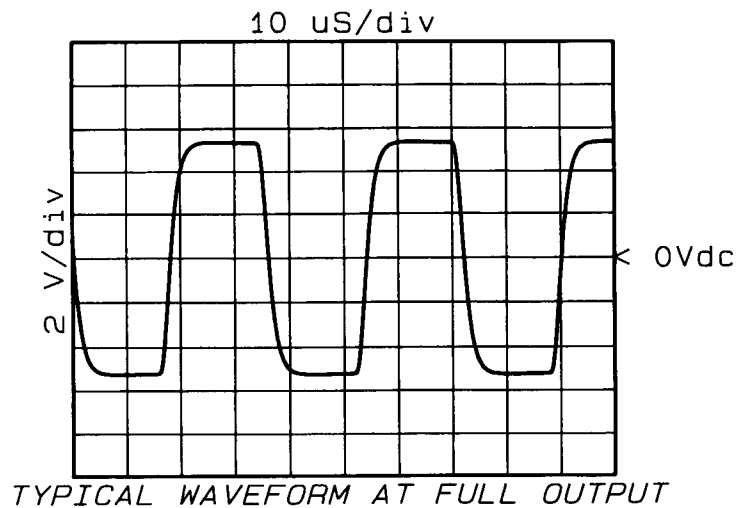

Figure 6-2. Typical Monitor Output Waveform
6. Inspect the waveform for overshoot. It should look similar to Figure 6-2. Record your observation on the *Operator's Check Record*.